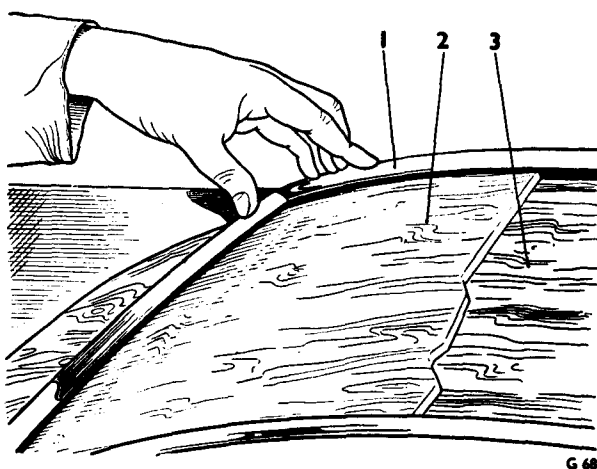

FIG. S39 CHECKING THAT THE EMBELLISHER CONFORMS TO THE SHAPE OF THE WINDSCREEN
(*see Figs. S39 and S40*)**All cars**
8. Fit the embellisher to the windscreen and check that the corners of the embellisher marry up to the windscreen for approximately 3 in. (7,62 cm.) of their length (*see Fig. S39*).